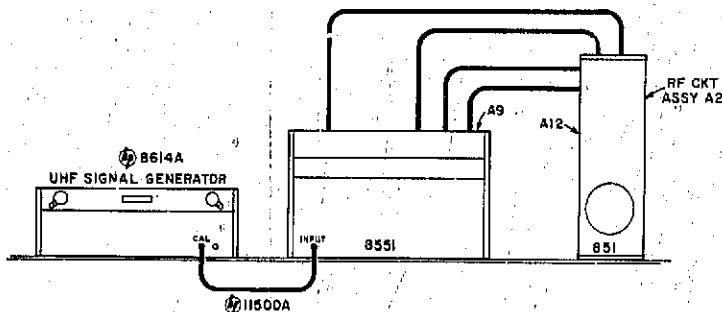

Figure 5-14. Final IF Bandwidth Alignment Setup
a. Setup. Remove top and bottom covers from 851 and top cover from 8551; connect as indicated in Figure 5-14.
(1) 851: